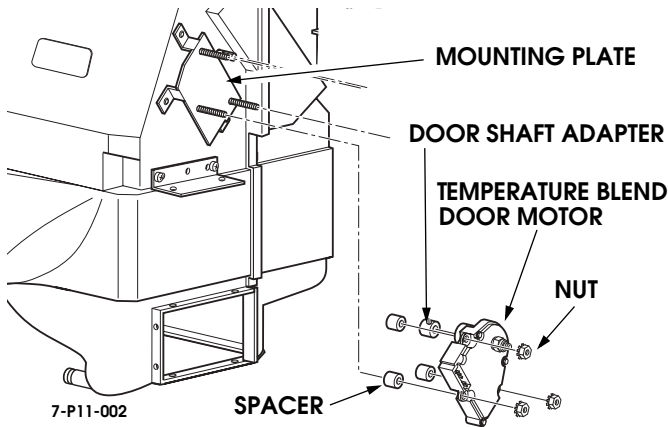

Figure 11-68: Temperature Blend Door Motor Removal
2. Remove 3 nuts securing motor to bracket (Figure 11-68).